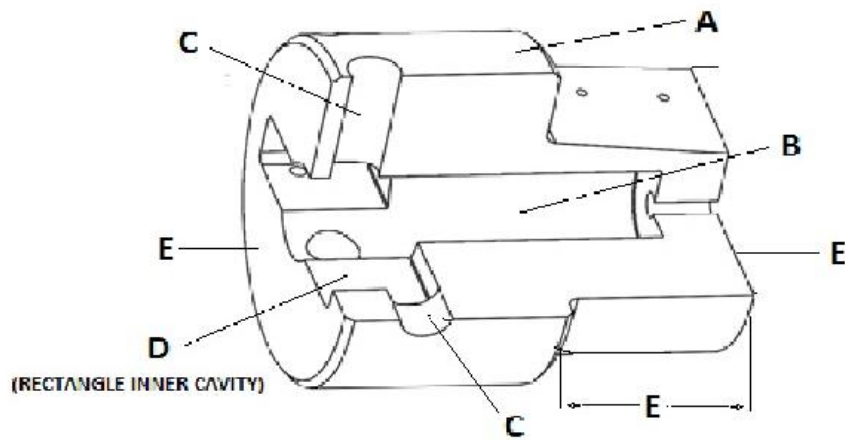

Figure 2
1. Lock Pin	25-23716 (Fig. 2 Zones A, B, and C)
1. Lock Pin	25-23716 (Fig.2 Zones E, and D)